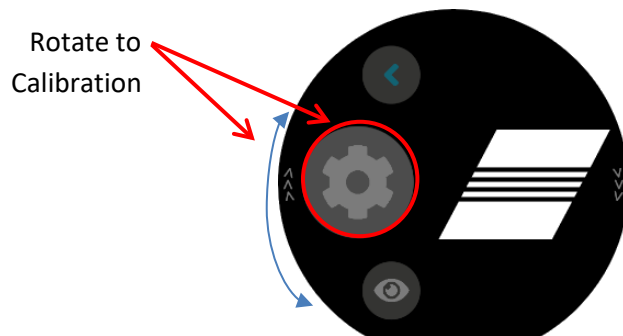

Figure 65: Main Menu after Scrolling to Calibration
6. Rotate the Base Unit controller and scroll to the **Calibration** button. Press to select. See Figure 65.